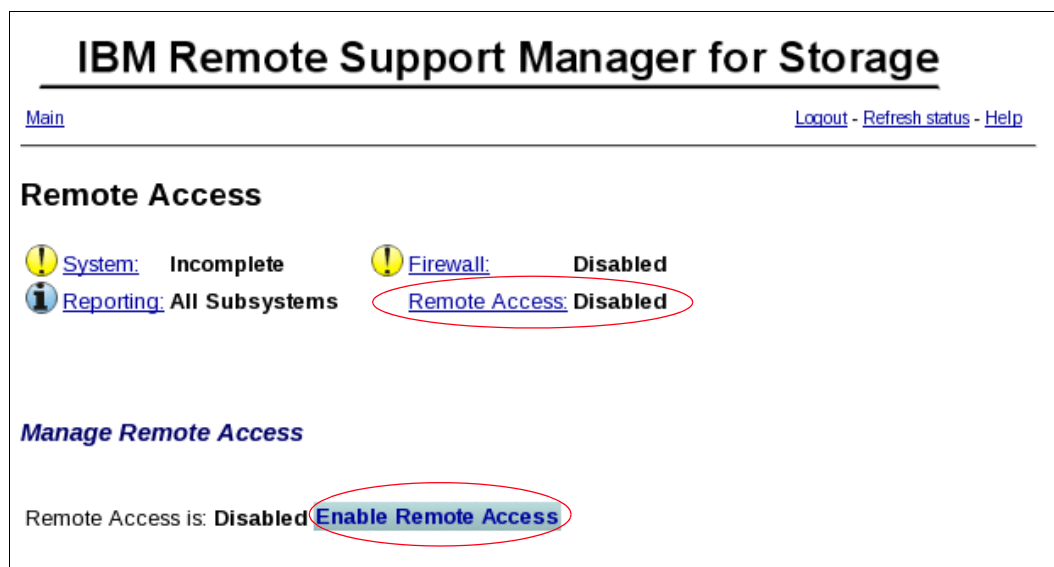

Figure 16-30 RSM Remote access
1. Make sure Remote Access is enabled. Click **Remote Access** in the main RSM window to activate it, if required as shown in Figure 16-30. For a complete description, see 16.2.6, “Remote access security” on page 509.